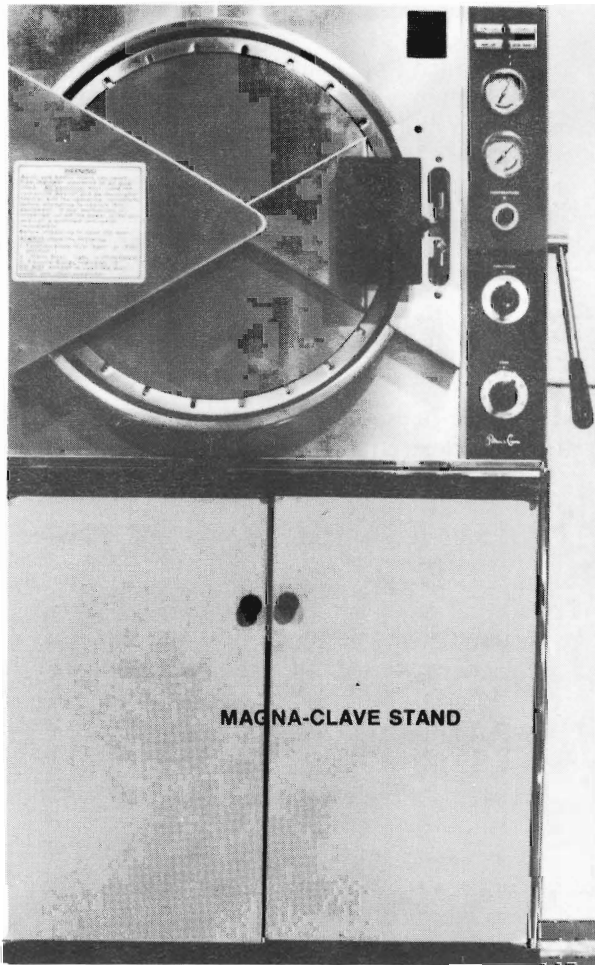

FIGURE 4 — MAGNA-CLAVE STAND
1.13 MAGNA-CLAVE Stand (Figure 4) - A matching **MAGNA-CLAVE** stand provides a convenient storage compartment to house trays or supplies.